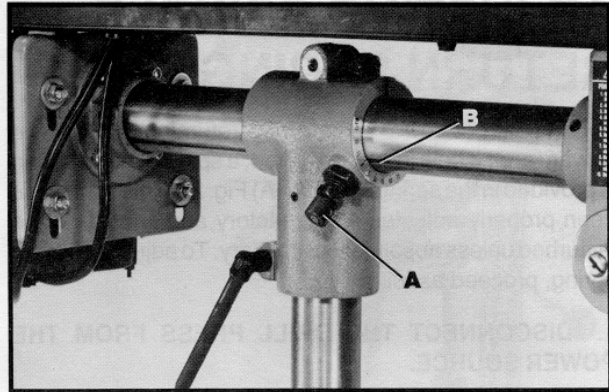

Fig. 26
2. Make sure the other end of the plunger (A) Fig. 26, is engaged in the milled slot (B) in the horizontal column.